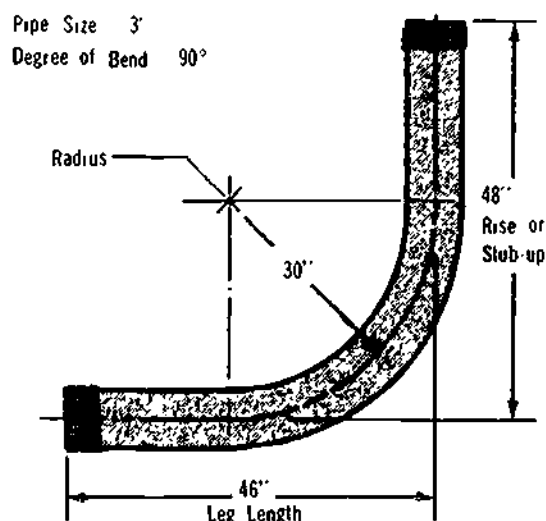

Figure 6-11. Sample Layout for 90° Bend
**Step 1** Calculate the bending data for a 90° bend, 48" riser or stubup, with 46" leg length, having a 30" radius to the centre line. (See Figure 6-11) On the 30" radius the developed length would be: